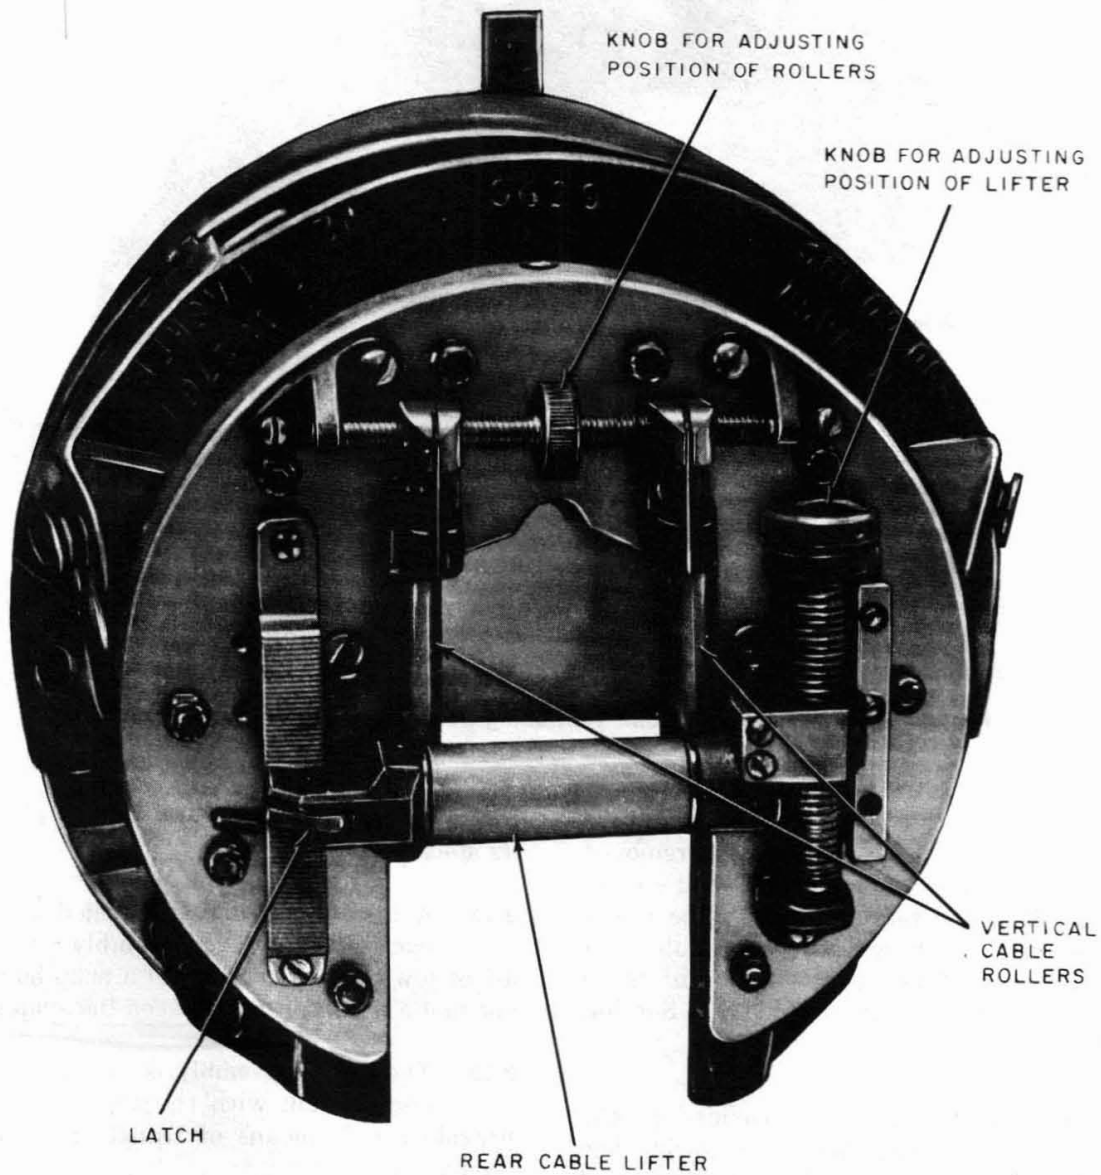

Fig. 4—Rear View of Lasher
**3.05** The rear cable lifter, illustrated in Fig. 4, is adjusted vertically by turning a knurled knob. The rear cable lifter is opened by pressing the latch and swinging the lifter to the open position. The rear vertical cable rollers are adjusted by turning a knurled knob. The vertical cable rollers are spring mounted to prevent jamming.
**4.05** With the rear cable lifter in the open position, the knob for adjusting the position of the cable lifters of each lasher shall turn freely through its complete travel, when operated with the fingers. (See Fig. 4.)
**4.06** When finger operated, the knob for adjusting the position of the vertical cable rollers of each lasher shall turn through its complete travel. (See Fig. 4.)